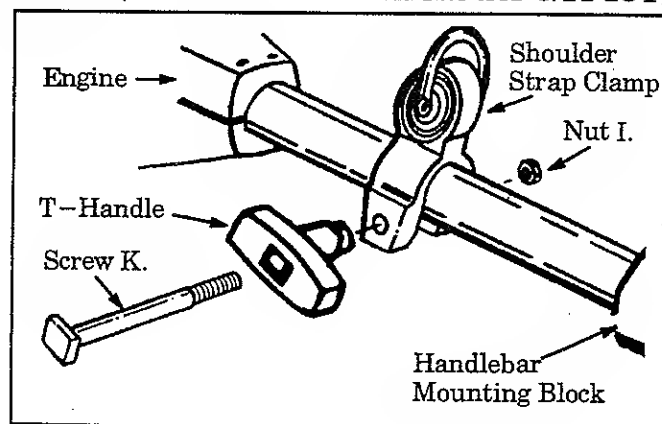

Figure 8
1. Align shoulder strap clamp between handlebar mounting block and engine. Figure 8.
2. Firmly push the shoulder strap clamp onto the tube. Figure 8. Be sure that the shoulder strap clamp is installed with the hex shaped recession (on the clamp) facing the same side of the tube as the barrier portion of handlebar.
3. Insert threaded end of screw "K." through the opening in the top of the T-handle. Figure 8.